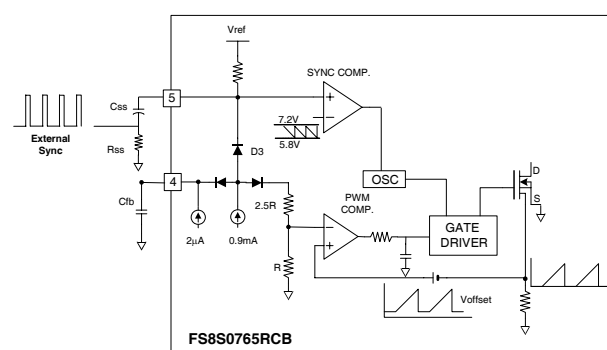

Figure 29. The circuit for the synchronization with external sync
5. Synchronization: To reduce the effect of switching noise on the screen, the SMPS for monitor synchronizes its switching frequency to an external signal, typically the horizontal sync flyback signal. The switching frequency of the FPS can vary from 20 kHz to 150 kHz according to the external sync signal. The internal sync comparator detects the sync signal and determines the SenseFET turn-on time. The SenseFET is turned on at the negative edge of the sync comparator output. The reference voltage of the sync comparator is an inverted saw tooth with a base frequency of 20kHz and a varying range between 5.8V and 7.2V, as shown in the Figure 29. The inverted saw tooth reference gets rid of the excessive switching noise at the first synchronized turn-on. The external sync signal is recommended to have an amplitude higher than 4.2V.